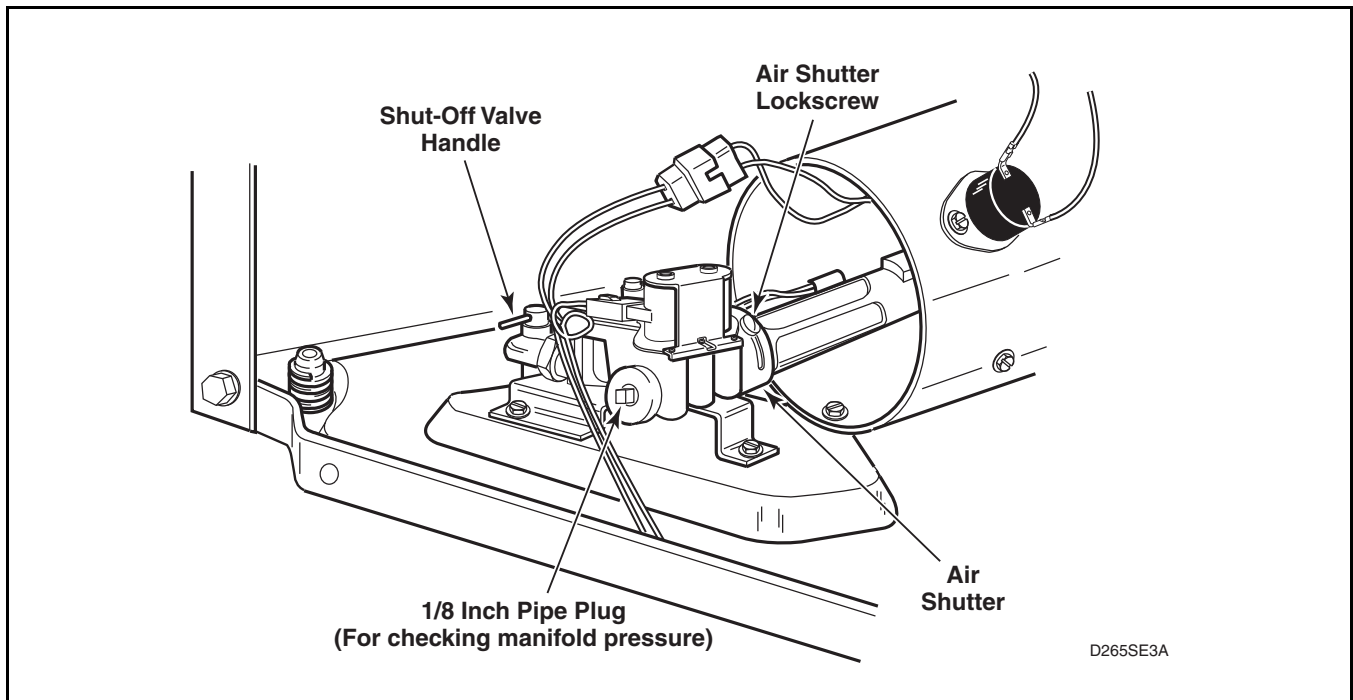

Figure 18
- Allow the dryer to operate for approximately five minutes, then loosen the air shutter lockscrew. Refer to *Figure 18*.
- After proper flame is obtained, tighten air shutter lockscrew firmly. Refer to *Figure 18*.